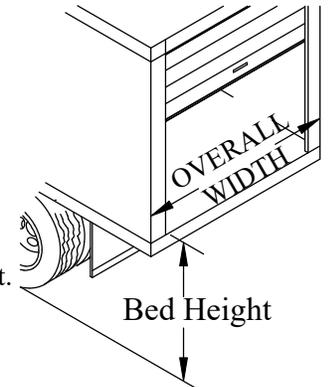

Figure 8: Body overall dimensions.
1. **Measure** the body opening, the overall width, and the bed height of the truck (Figure 8).